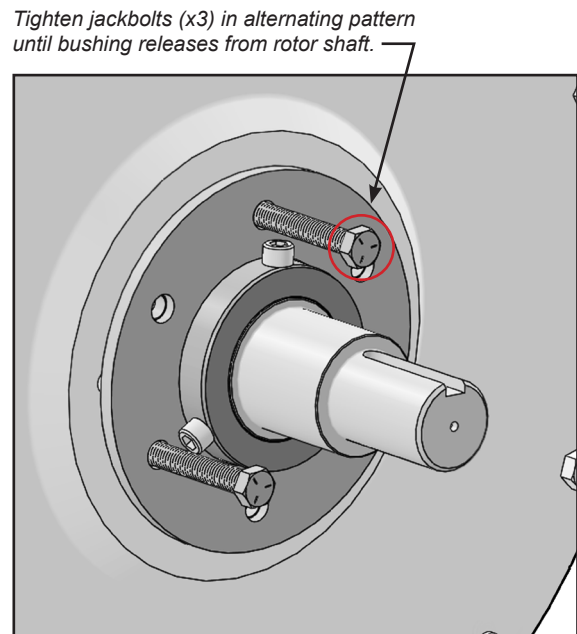

FIGURE 28
16. Tighten the long jack bolts in the puller plate until it bottoms out on the endplate front face (Figure 28).